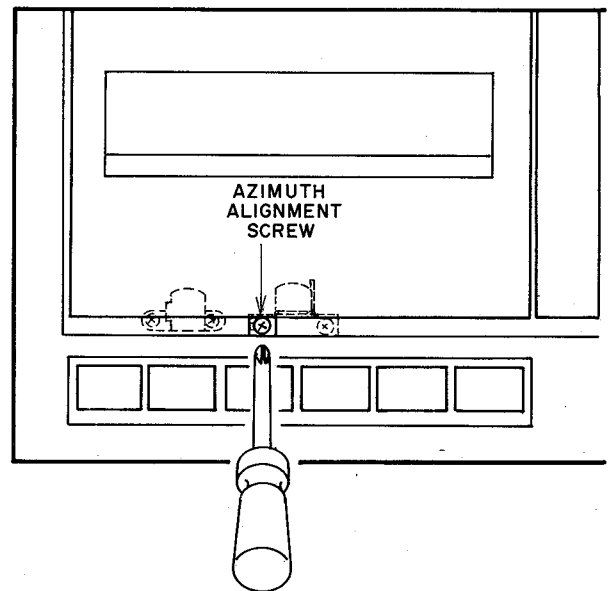

Fig. 5-4
2. Playback a 3150Hz pre-recorded Test Tape (AT-751263) and adjust a Tape Speed adjustment volume (See Fig. 5-4) to obtain a tape speed of $3150\text{Hz} \pm 30\text{Hz}$.
3. Playback a 3150Hz pre-recorded Test Tape (AT-751263) and adjust a Tape Speed adjustment volume (See Fig. 5-4) to obtain a tape speed of $3150\text{Hz} \pm 30\text{Hz}$.